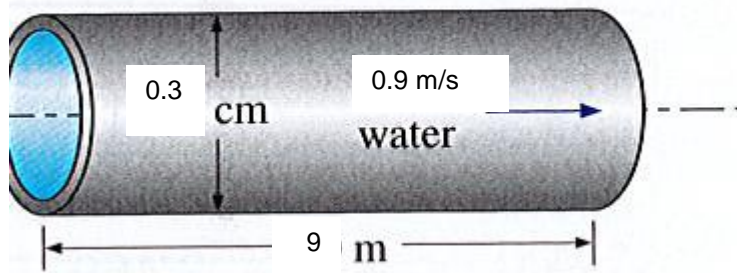

Figure 3/ Rajah 3
- b) Water at 5°C ($\rho = 1000 \text{ kg/m}^3$) and $\mu = 1.519 \times 10^{-3} \text{ kg/m.s}$) is flowing steadily in a 0.3 cm diameter 9 m long horizontal pipe at an average velocity of 0.9 m/s as shown in **Figure 3**.